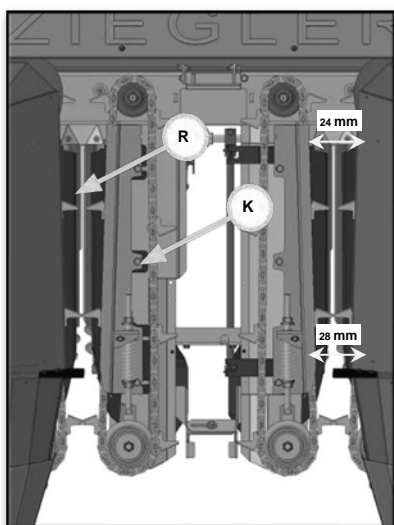

Fig. 27
If the snapping plates are to be readjusted, first bring the hydraulic adjustment into the most tight-fitting position possible. Then check the conical position of the snapping plates (Setting, see Fig. 27) Set an even snapping plate clearance via the adjustment lever (H) if necessary.